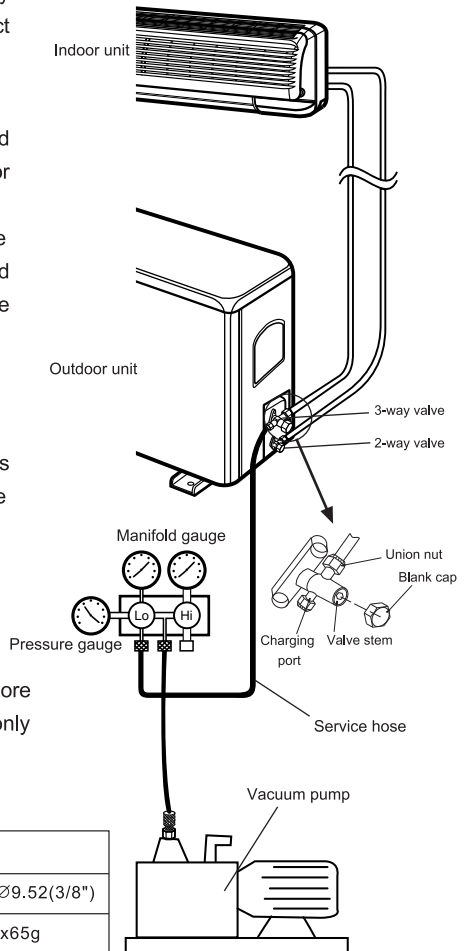

Fig.6
1.Check that pipelines connection have been properly connected,remove the charging port cap,and connect the manifold gauge and the vacuum pump to the charging valve by service hoses as shown Fig.6.